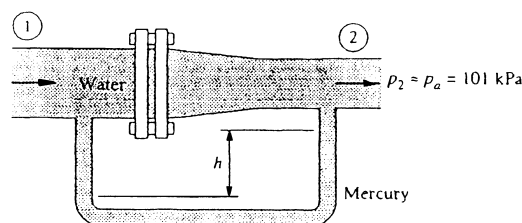

Fig. P3.54
3.54 For the pipe-flow reducing section of Fig. P3.54, $D_1 = 8$ cm, $D_2 = 5$ cm, and $p_2 = 1$ atm. All fluids are at 20°C . If $V_1 = 5$ m/s and the manometer reading is $h = 58$ cm, estimate the total horizontal force resisted by the flange bolts.